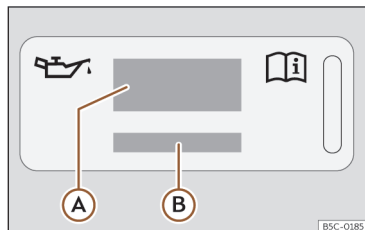
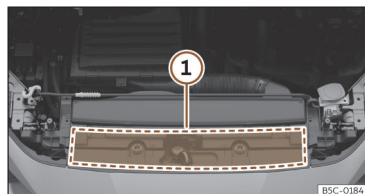

Fig. 228 In the engine compartment: engine oil label
Fig. 229 In the engine compartment: area where the engine oil label is located
Key to >>> **Fig. 228:**
If the engine oil has to be topped up, use one of the oils shown on the label >>> **Fig. 228**. The label with the prescribed standard is located at the front of the engine compartment >>> **Fig. 229** **1**. If you use the recommended engine oil, you can top up the oil as often as necessary.
- If the label showing the engine oil specifications is missing >>> Fig. 228, please contact a specialist workshop.